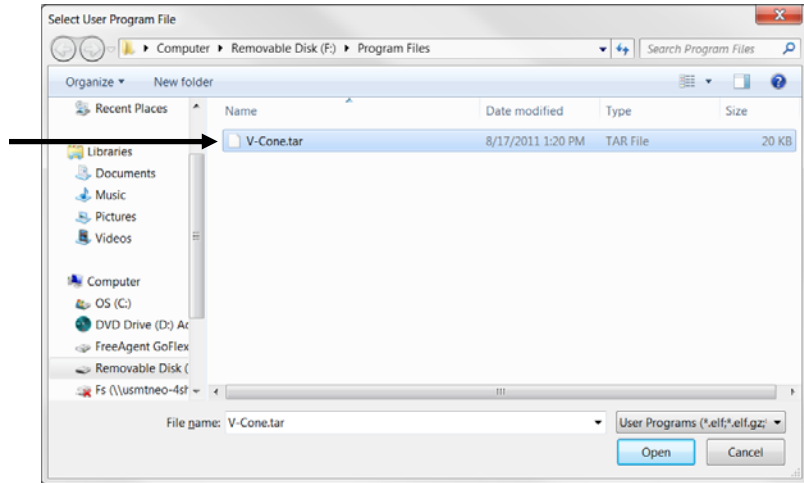

Figure 2-4. Select User Program File
2. Click **Browse** in the Download User Program File frame. The Select User Program File screen displays (see Figure 2-4).
3. Select the path and user program file to download from the CD-ROM. (Program files are typically located in the Program Files folder on the CD-ROM.) As Figure 2-4 shows, the screen lists all valid user program files with the .TAR extension: